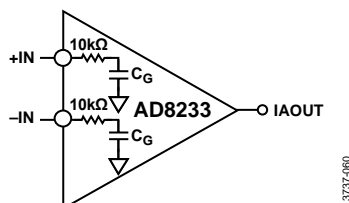

Figure 60. RFI Filter Without External Capacitors
Radio frequency (RF) rectification is often a problem in applications where there are large RF signals. The problem appears as a dc offset voltage at the output. The AD8233 has a 15 pF gate capacitance and 10 k Ω resistors at each input. This forms a low-pass filter on each input that reduces rectification at high frequency (see Figure 60) without the addition of external elements.